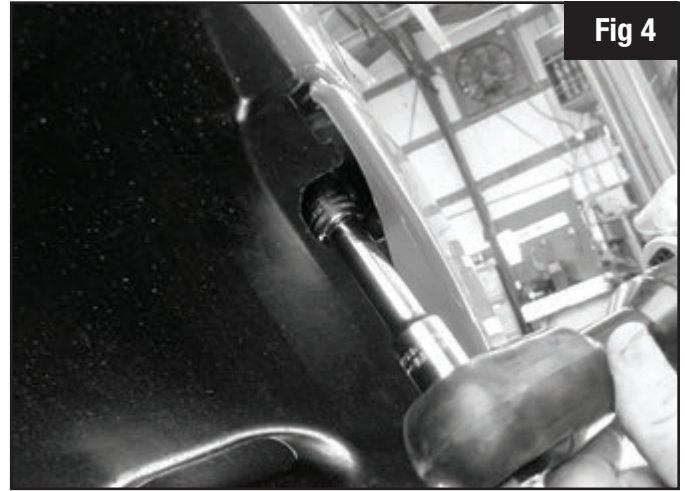

Fig 4
G) Remove the 2 Phillips head screws located in the inner fender well lining, per side. **Fig 4.**
J) Remove bolts on bumper mold below the corner cap, (4) on each side. **Fig 4.**